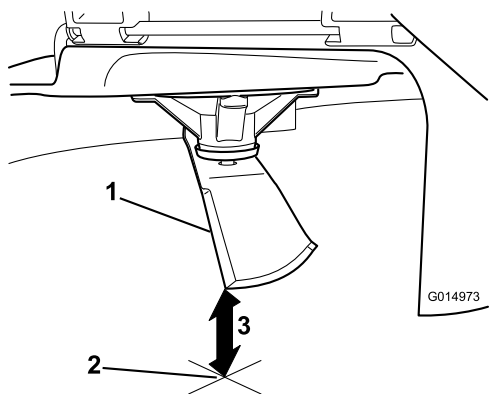

Figure 57
5. Measure from the tip of the blade to the flat surface (Figure 57).